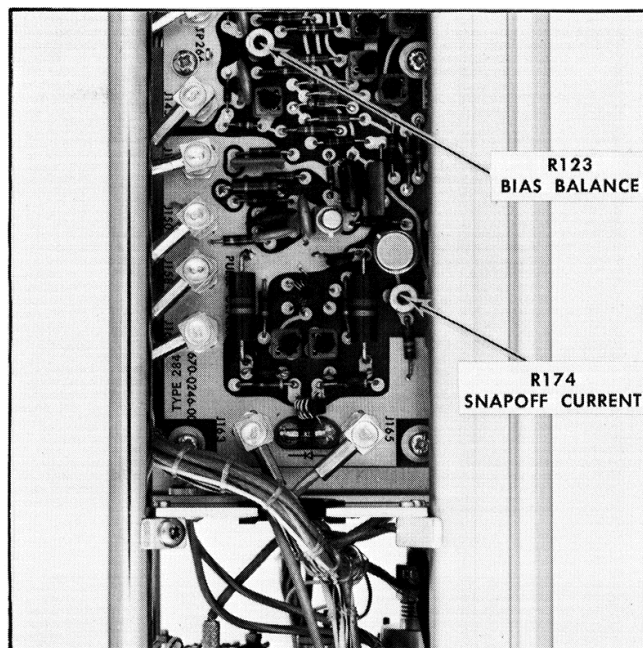

Fig. 6-27. Location of adjustments for steps 16 and 17.
- Reconnect the signal and adjust the Bias Balance control R123 on the Pulse Generator board (see Fig. 6-27 for location) so that the base line (the lower portion of the square wave before the positive transition) is at the same vertical position as the zero-volt trace obtained in (b).
- Adjust Snapoff Current R174 (see Fig. 6-27 for location) to obtain 5 ns between the Trigger and the Pulse display. Readjust the TD BIAS control as necessary to obtain a stable PULSE OUTPUT display.